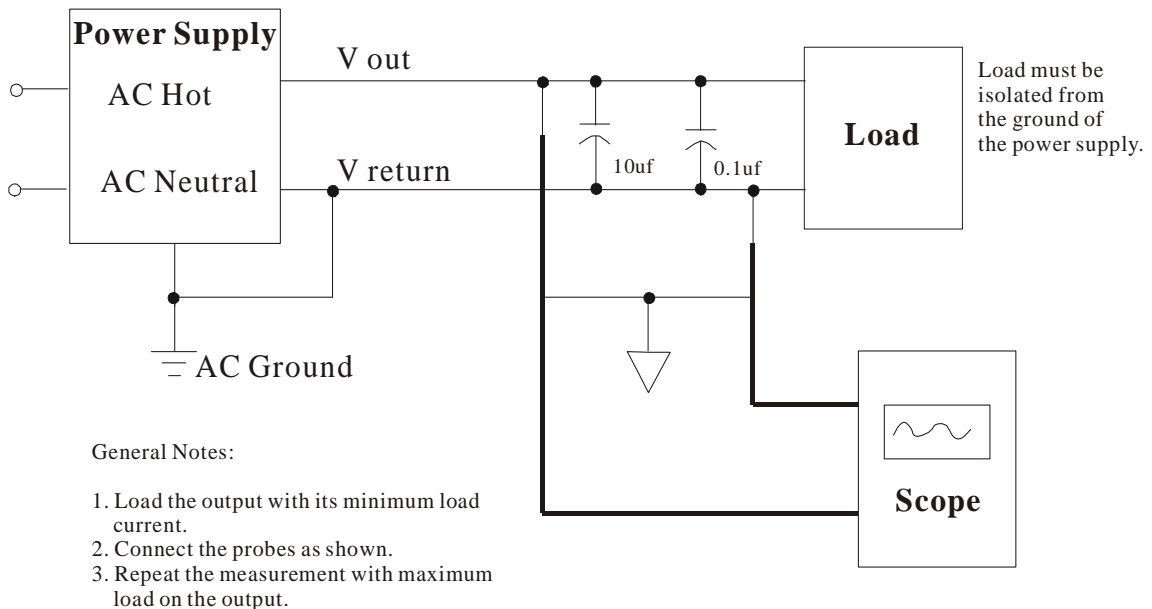

Figure 1. Differential Noise Test Setup
- E. Ripple and noise measurements shall be made under all specified load conditions through a single pole low pass filter with 20MHz cutoff frequency. A 0.1uF ceramic disk capacitors in parallel with a 10uF tantalum are placed at the point of measurement. See Figure 1.